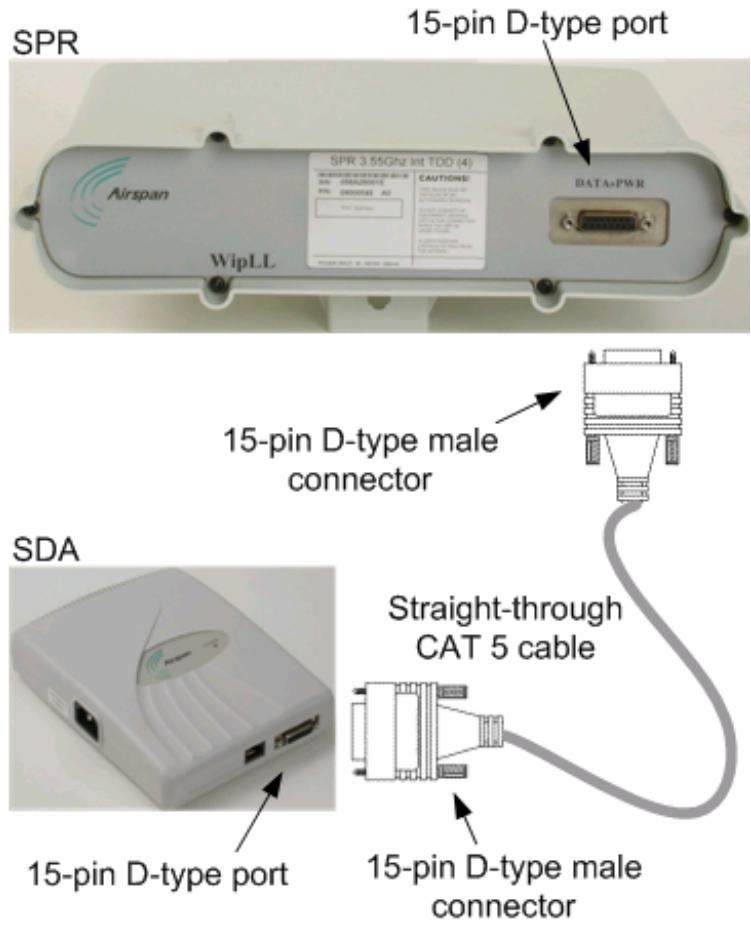

Figure 14-1: SPR-to-SDA (except SDA-1 Type II) cable connections
To connect the SPR to the SDA (see Figure 14-1):
- For SDA except SDA-1 Type II: connect the **15-pin D-type male** connector to the SDA's **15-pin D-type** port (see Figure 14-1)